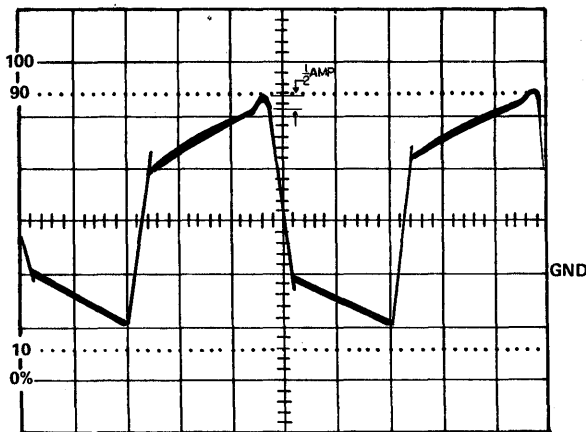

Figure 15. 10us/div, 2 amps/div (34-017), 4 amps/div (34-020)
4. Adjust R19 while observing the T2 Primary Current. Adjust for a .5 Amp tail on either the positive or negative trailing edge of the current curve form as shown in Figure 15 or 16.
CARE SHOULD BE TAKEN NOT TO ALLOW THE POWER SUPPLY TO OPERATE FOR MORE THAN A FEW SECONDS WITH A "TAIL" OF GREATER AMPLITUDE THAN THAT SHOWN BY FIGURES 15 AND 16.